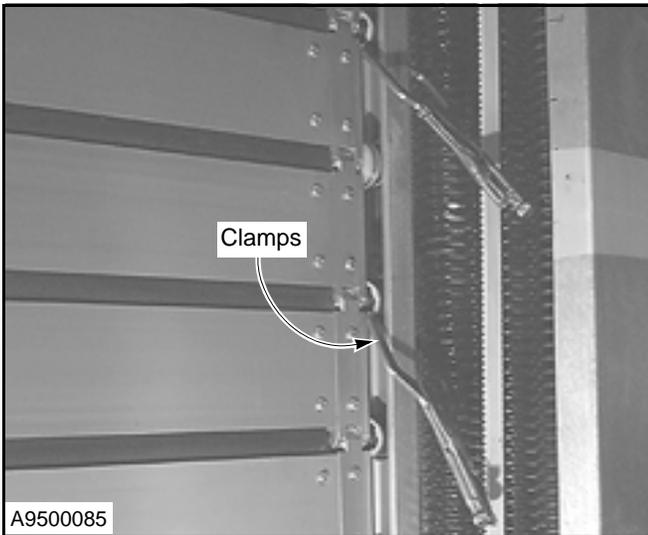

Figure 76
4. Clamp both sides of the door to the upper-most sections of track. (See Figure 76.)